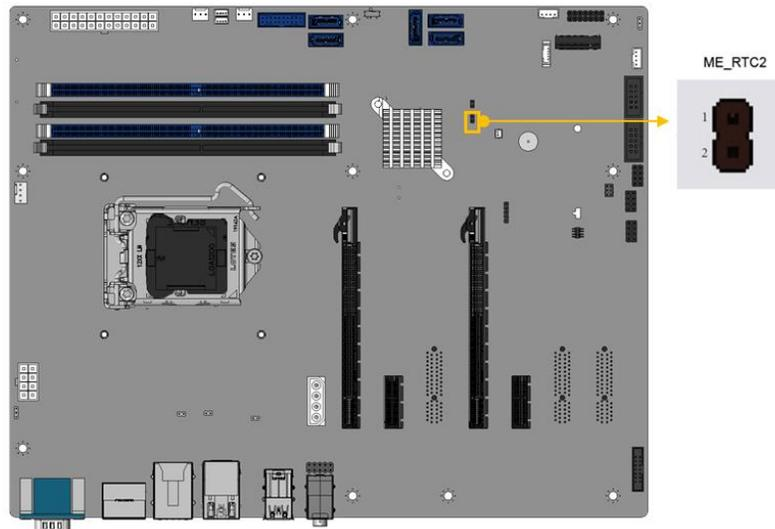

Figure 3-10: Clear ME Jumper Location
- CN Location:** See **Figure 3-10**